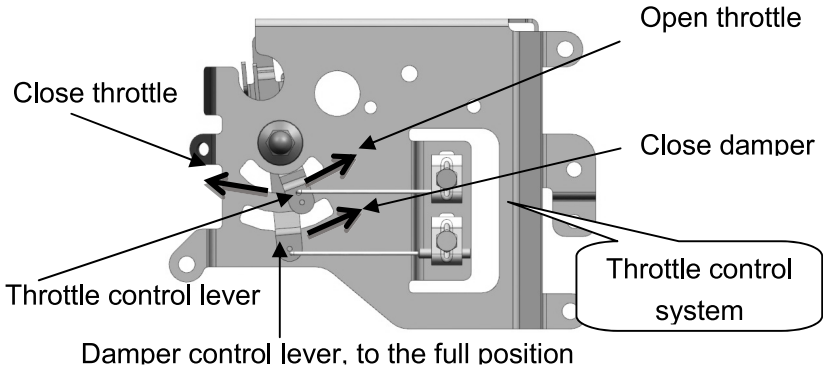

Figure 11
- 2.2 After the gasoline engine is warmed up, adjust the throttle control system and adjust the gasoline engine speed to FAST (high speed: 3300rpm) or SLOW (low speed: 1750rpm). See Figure 11.